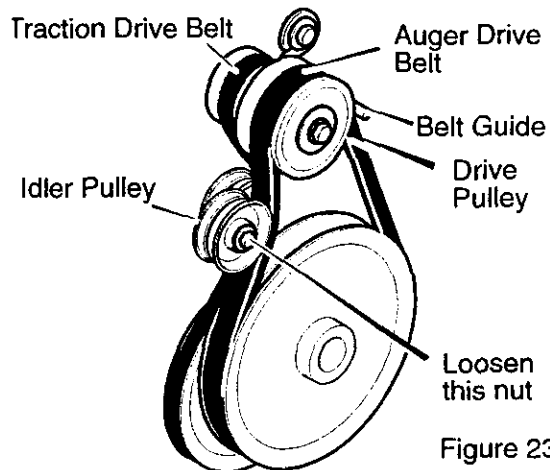

Figure 23
- Loosen the **nut** on the **idler pulley** and move the pulley toward the belt about 1/8". See Figure 23.
- Loosen the **belt guide**. Pull the **belt guide** away from the **auger drive pulley**. See Figure 23.